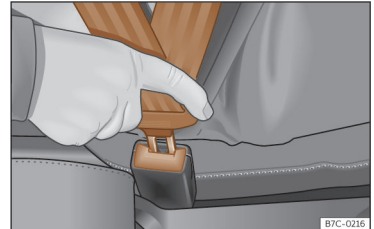

Fig. 13 Insert the latch plate of the seat belt into the buckle.
- Engage the latch plate in the buckle of the corresponding seat >>> **Fig. 13**.